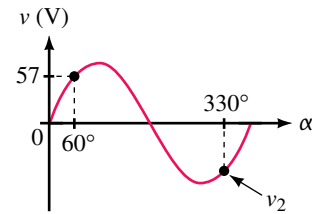

FIGURE 15–83
23. If the period of the waveform in Figure 15–82 is 180 ms, compute current at $t = 30$, 75, 140, and 315 ms.
26. For the waveform of Figure 15–83, determine v_2 .